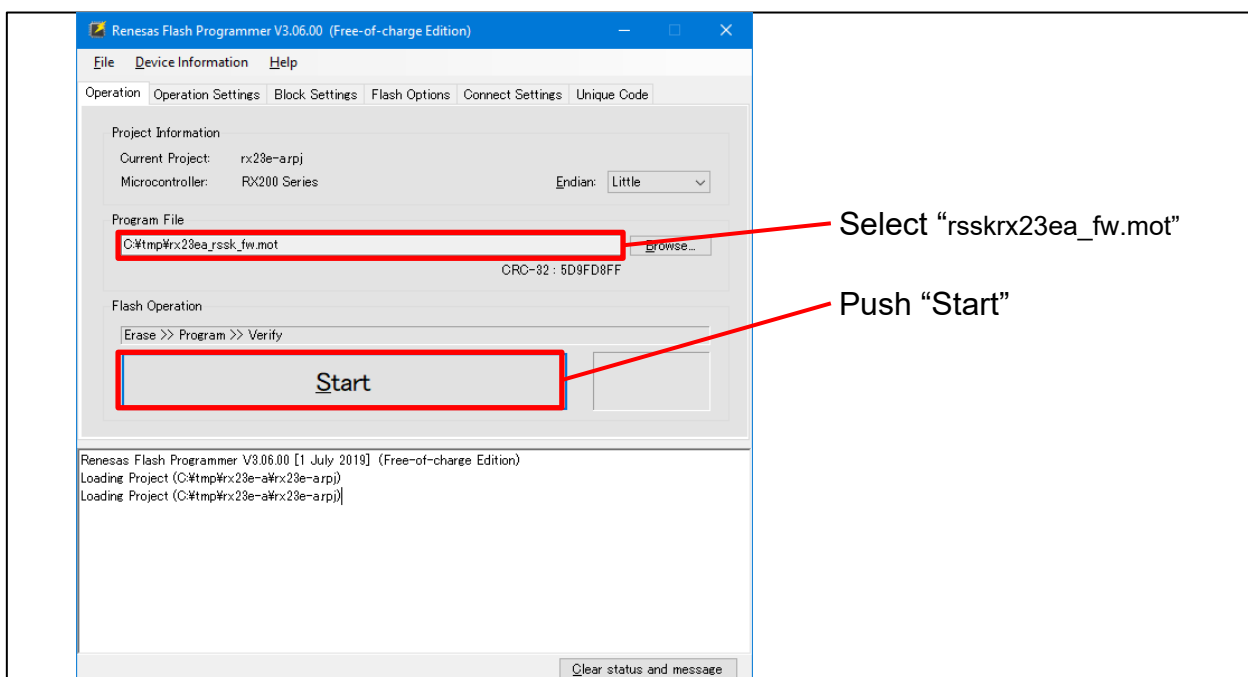

Figure 4-3 RFP Writing Operation
4. Select “rsskrx23ea_fw.mot” file, then click “Start” after reset RSSKRX23E-A board.in reference to Figure 4-3.